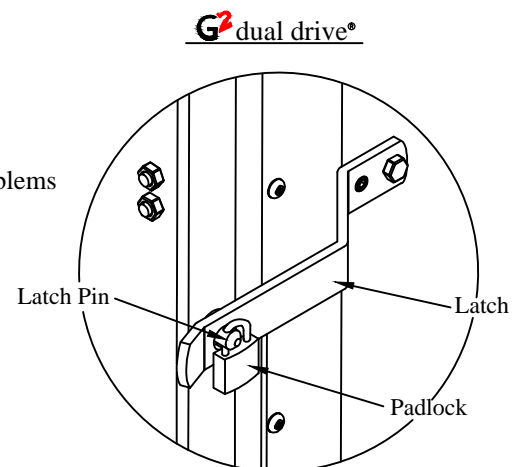

Figure 18: Padlock location.
9. **Lock** the padlock through the hole in the latch pin (Figure 18).